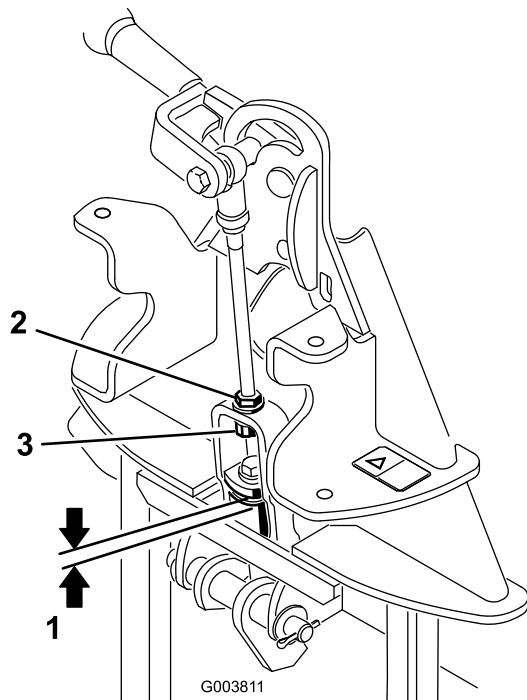

Figure 6
2. Measure the gap between the top washer and the spacer in the link assembly on the attachment adapter as shown in Figure 6.